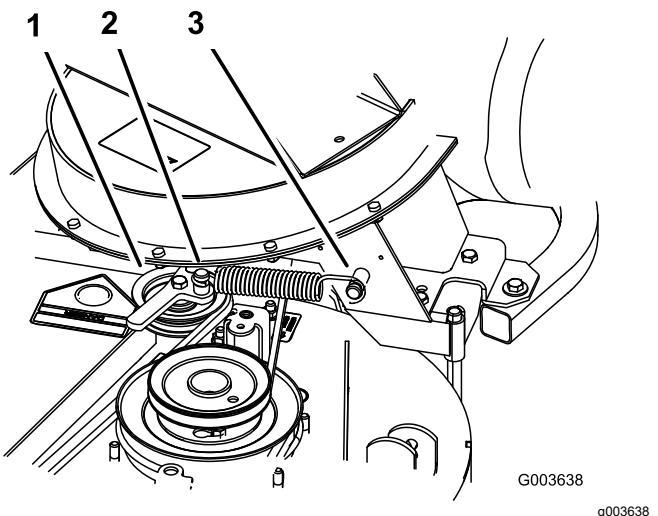

Figure 20
4. Install the spring as shown in Figure 20.